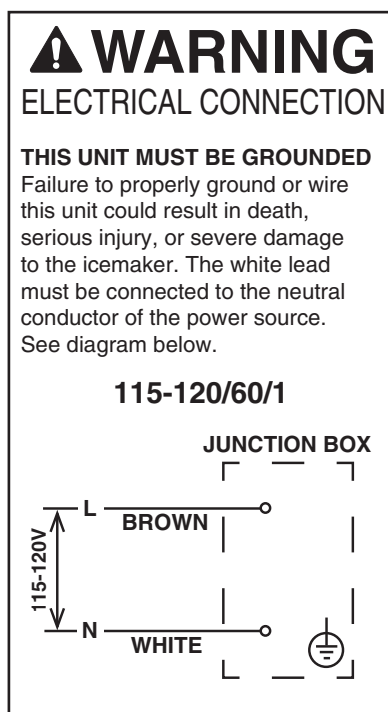

Fig. 3
4. Electrical connection must be made in accordance with the instructions on the "WARNING" tag, provided with the pig tail leads in the junction box. See Fig. 3.